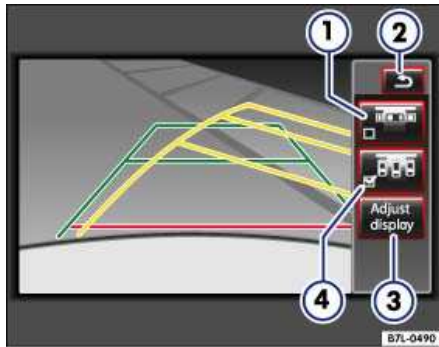
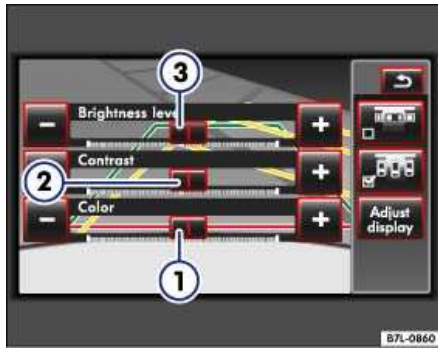

Fig. 13 Parking modes: exit the current display (2), mode 2 (1), display settings (3) and mode 1 (4).
Fig. 14 Display settings: color 1, contrast 2 and brightness 3.
- Press the function button **Adjust display** ⇒ Fig. 13 (3) to change the brightness contrast or the color of the screen. A sliding lever is provided for each setting ⇒ Fig. 14.